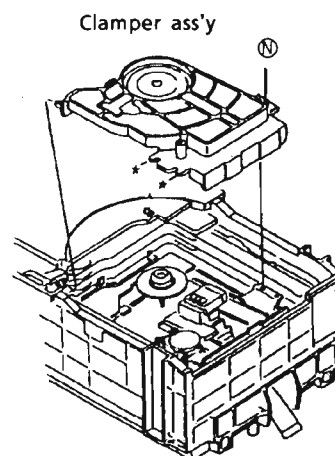

Fig.28
5. Remove a screw ⑤securing center of the clamber ass'y.(See Fig. 28)